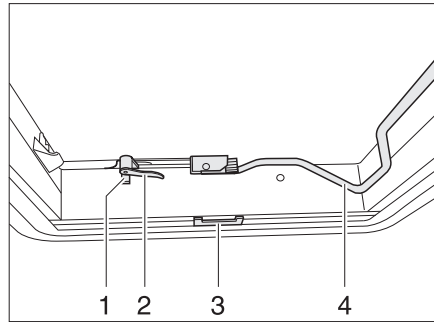
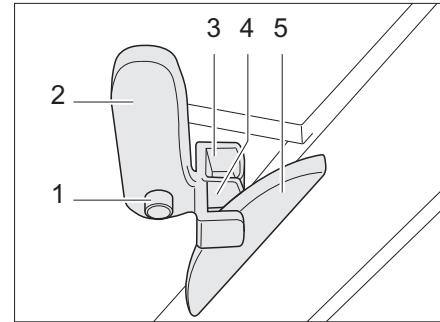

Fig. 50 Heki skylight, closed
Fig. 51 Heki skylight in ventilation position 1
- Press the safety knob (Fig. 50,1) and turn the catch lever (Fig. 50,2) one quarter turn inward.
- Pull the bar (Fig. 50,4) downwards out of the latch.
- Turn the catch levers (Fig. 50,2 and Fig. 51,2) one quarter turn. The hook of the roof lock (Fig. 51,5) must engage in the upper locking fork (Fig. 51,3).
- Press the safety knob (Fig. 51,1) and turn the catch lever (Fig. 51,2) back. The hook of the roof lock (Fig. 51,5) must engage in the lower locking fork (Fig. 51,4).